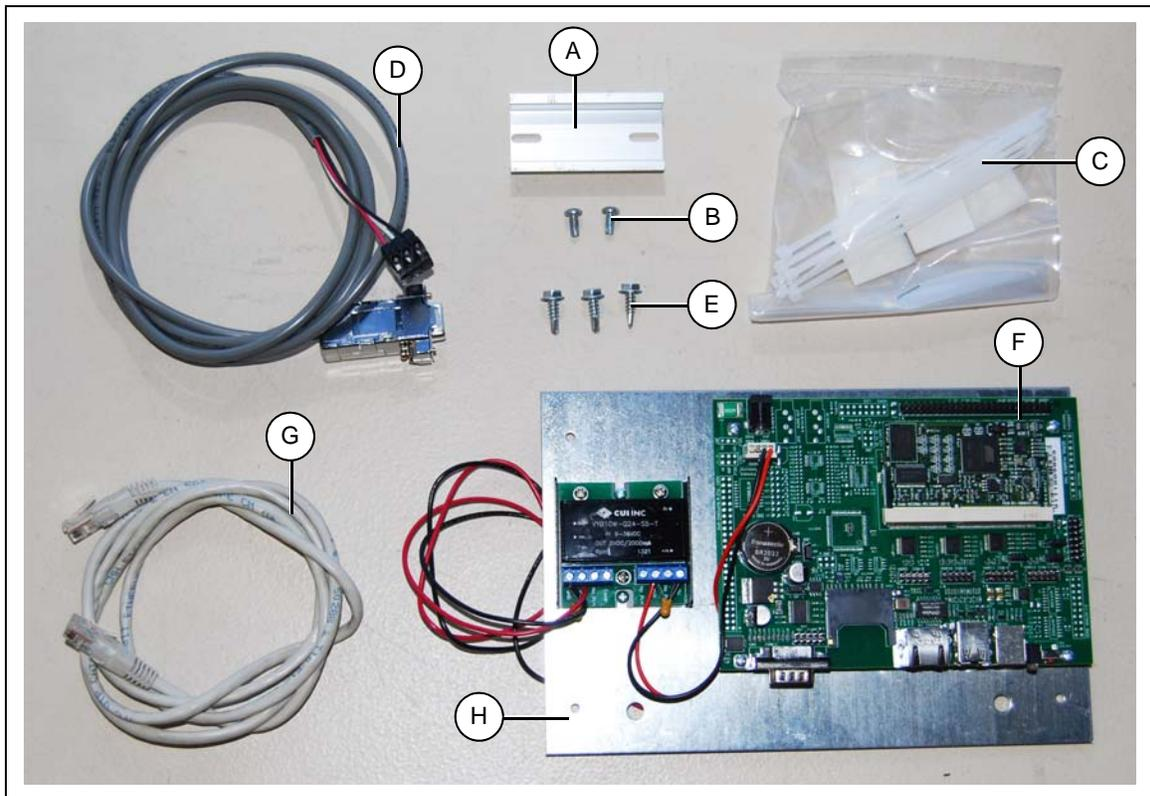
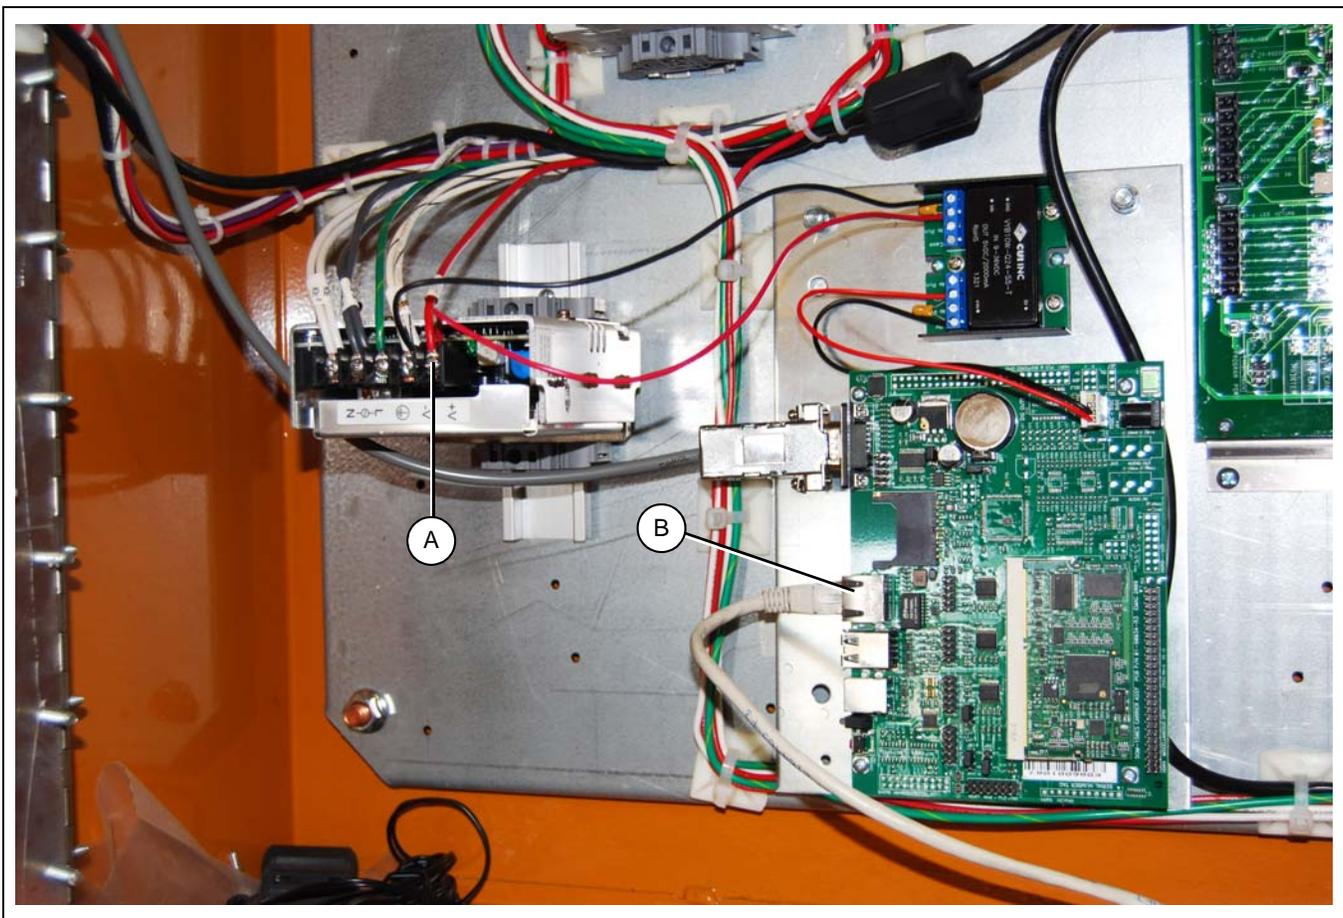
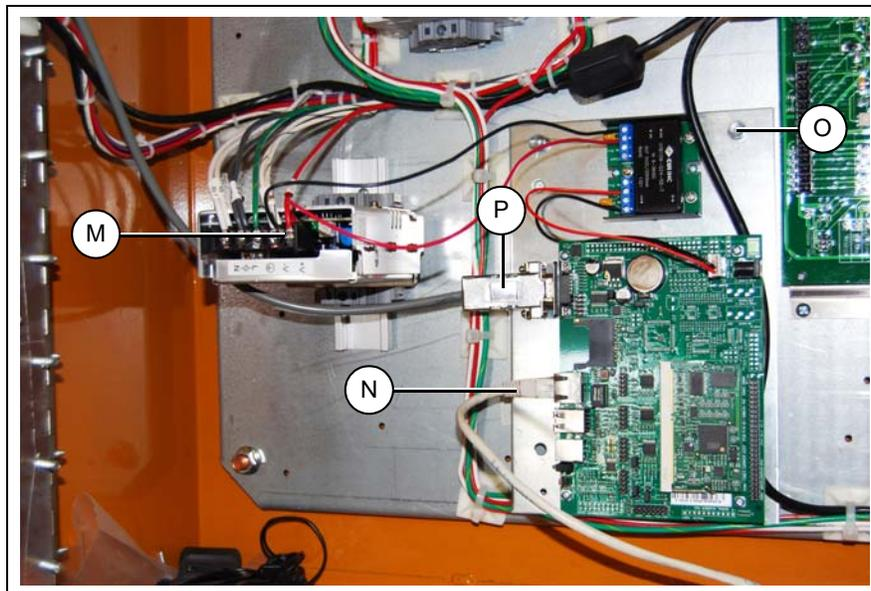

Figure 4B WatchDog System for Customer LAN/WAN Connection (Part # VIS-WATCH-IC)
Figure 5C *Mounting of Cellular MODEM*
Figure 5J Looking Inside Lower Control Box (Ethernet Cable Connects to Cell MODEM)
2. Internet Connection via Cellular MODEM (Part # VIS-WATCH-IC) - This option allows the user to connect their dryer to the Internet using a cell MODEM. (See Figure 4B on Page 12.) This type of MODEM can be purchased from a variety of suppliers and for a variety of network providers. See Appendix C on Page 42 for more information. It is the customer's responsibility to acquire a MODEM and configure/provision it for operation.
3. Customer LAN Connection (Part # VIS-WATCH-IC) - This option is can be used by a customer who already has a Local Area Network. (See Figure 4B on Page 12.) A hardwired connection from their network to the WatchDog board is required to "see" the WatchDog System on their network. Proper setup will also allow the WatchDog System to be viewed from anywhere that has access to the Internet. It is the customer's responsibility to provide a proper connection to their network. This option is the most difficult to configure and will probably require outside assistance from an entity with considerable networking experience. While GSI's Technical Support group can offer suggestions, GSI is not responsible for the required connection.
The user can use this setup (GSI Part # VIS-WATCH-IC) to make their Vision Dryer visible on the Internet by providing a connection to the Internet. This connection can be provided using a Cellular MODEM or by providing a hardwired Ethernet connection to the user's LAN. The cellular MODEM style setup allows the customer's dryer to connect to the Internet via a cell MODEM, located at the dryer. The customer's dryer is then accessed over the Internet via a static IP address. Figure 4B on Page 12 shows the components included in this setup. The components are listed as follows:
2. Mount WatchDog hardware inside dryer's lower control box. The metal mounting plate (*Figure 4B on Page 12*, Ref # H), which the WatchDog Board is affixed to, mounts on the right hand wall of the control box, looking into the box, using the 1/4" nuts supplied (*Figure 4B on Page 12*, Ref # E). (*See Figure 5J on Page 21.*)
3. Mount the Cellular MODEM in the lower control box near the moisture control board, using the 3" piece of DIN Rail (*Figure 4B on Page 12*, Ref # A) and the two (2) self-tapping 1/4" screws. (*See Figure 5C.*)
5. Connect WatchDog Board to the Vision Dryer's Display I/O board using the provided modified serial cable (Figure 4B on Page 12, Ref # F). Care should be taken that the cable is plugged into the Display I/O board correctly - Inspection will reveal it is designed to be inserted (polarized) in only one direction. (See Figure 5E on Page 19.)
6. Connect power supply wire between WatchDog Board and Cellular MODEM power connections. The cable (Figure 4B on Page 12, Ref # D) has a barrel style connector at the end that plugs into the WatchDog board (See Figure 5J on Page 21) and two (2) bare wires at the other end to place into the Cellular MODEM power terminals. The order of the wire connections makes no difference.
7. Connect cellular MODEM power terminal (positive, pwr +) to J1-01 on the moisture control board. Connect cellular MODEM ground terminal (GND) to J1-02 on the moisture control board. See Figure 5F for MODEM connections and Figure 5C on Page 17 for moisture control board connections.
2. Mount WatchDog hardware inside dryer's lower control box. The metal mounting plate (Figure 4B on Page 12, Ref # H), which the WatchDog Board is affixed to, mounts on the right hand wall of the control box, looking into the box, using the 1/4" nuts supplied (Figure 4B on Page 12, Ref # E). (See Figure 5J on Page 21.)
5. Connect power supply wire between WatchDog Board and the 12 VDC power supply using the red and black wires coming from the power supply as shown in Figure 5C on Page 17. The black wire connects to 12 VDC- on the 12 VDC power supply and the red wire connects to 12 VDC+ on the 12 VDC power supply. The 12 VDC power supply is located in the back of the lower control box and is pictured in Figure 5C on Page 17.